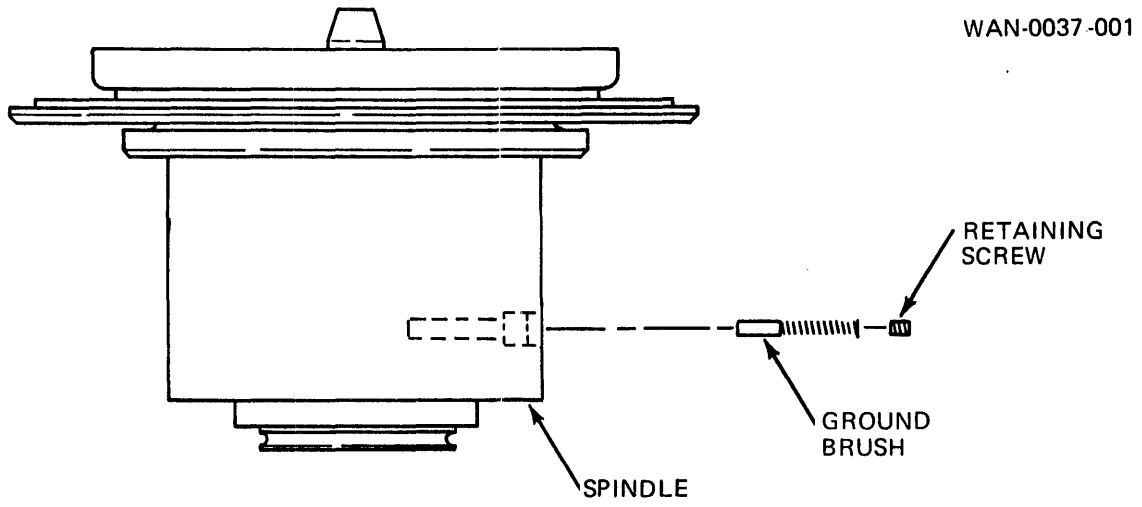

Figure 5-19. Spindle Shaft Ground Brush – Mounting
5.4.3.8 Spindle Ground Brush. The spindle ground brush is mounted on the side of the spindle motor. Brush replacement is indicated if the resistance between the spindle shaft and the casting exceeds 1.5 Ohms (with the shaft rotating). To remove the spindle ground brush, remove the air filter and remove the screw securing the brush in the spindle assembly, as shown in Figure 5-19. Take out the brush. To replace the ground brush, reverse the procedure.